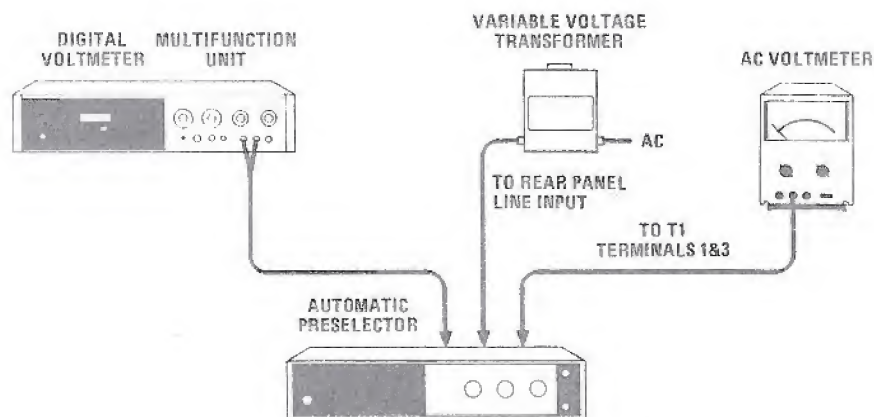

Figure 5-1. Power Supply Adjustment Test Setup
1. Connect test setup as indicated in Figure 5-1. Make sure the line voltage Power Module printed circuit card is set for the nominal voltage value closest to the existing line voltage (paragraphs 2-7 to 2-9).